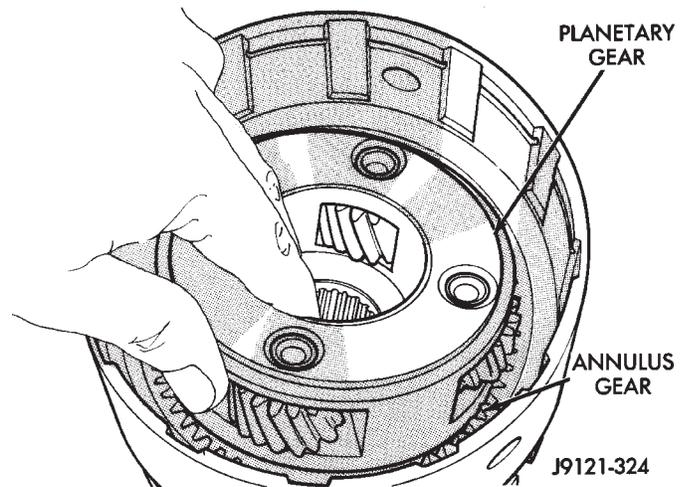
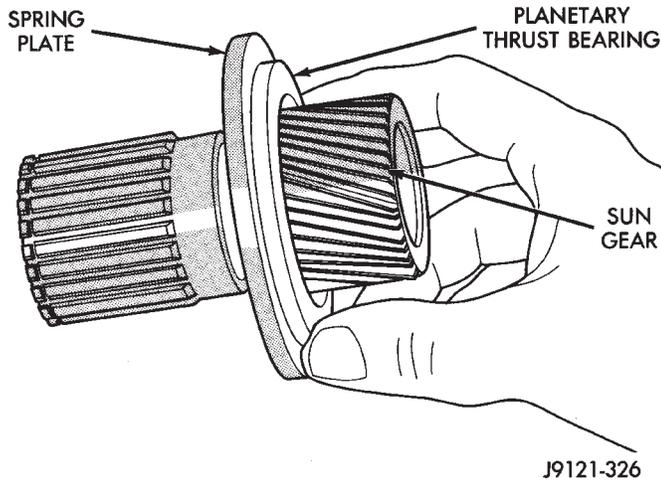

Fig. 242 Planetary Gear Installation
Fig. 243 Planetary Thrust Bearing Installation
(11) Install planetary gear in annulus gear (Fig. 242). **Be sure planetary pinions are fully seated in annulus gear before proceeding.**
(12) Coat planetary thrust bearing and bearing contact surface of spring plate with generous amount of petroleum jelly. This will help hold bearing in place during installation.
(13) Install planetary thrust bearing on sun gear (Fig. 243). Slide bearing onto gear and seat it against spring plate as shown. **Bearing fits one way only.**